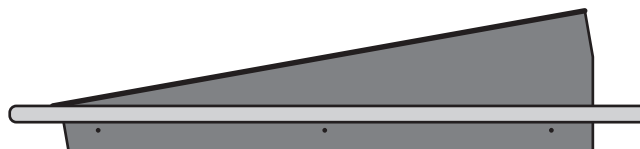

Figure 3.7 Profile of Control Panel Sitting in the Desk
3. Gently slide the control panel into the cutout in the desk. The control panel will drop into the cutout from above and rest on the edge supports (**Figure 3.7**).